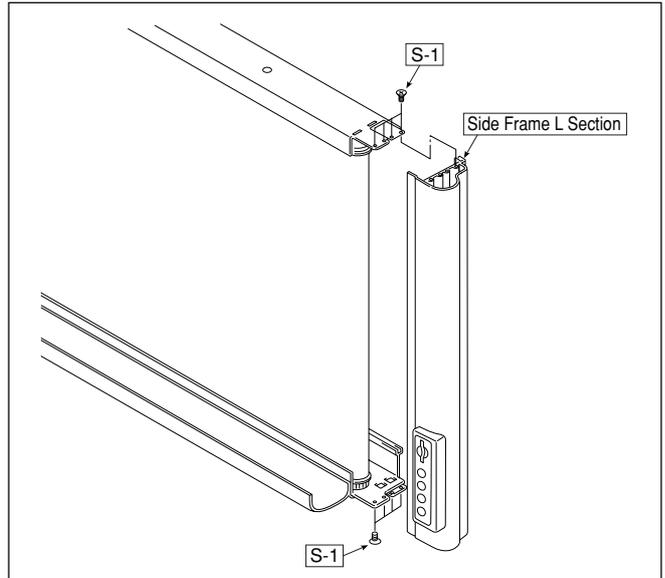

Fig. 4
### 4) Remove the Side Frame L Section. (See Figure 4.)
1. Remove the "S-1" screw shown in Figure 4.